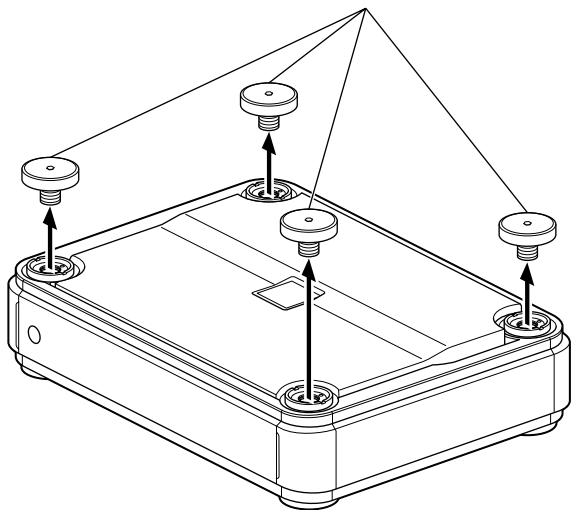
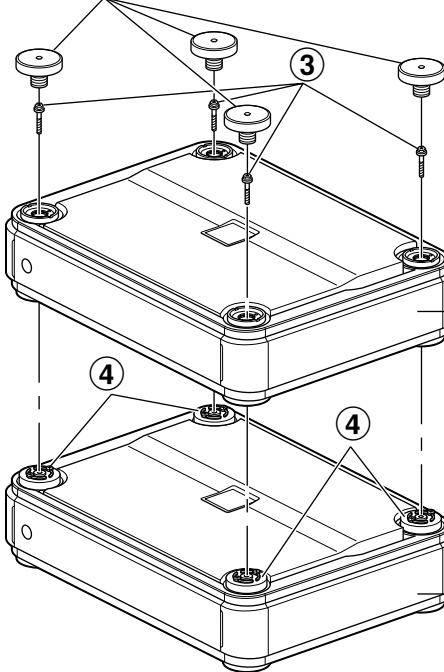

Fig. 1
Fig. 4
- Machine Screw (M4 x 36, see ③ of Fig.4 on the left)
INSTALLATION (Fig. 1 - Fig. 4)
- Remove the four corner top caps on top using the hexagon wrench (large, supplied). Refer to fig.1.
- Insert the four machine screws (M4 x 36, supplied) through the top of the second unit into the four joint caps of the lower unit to connect them together. Refer to fig.4